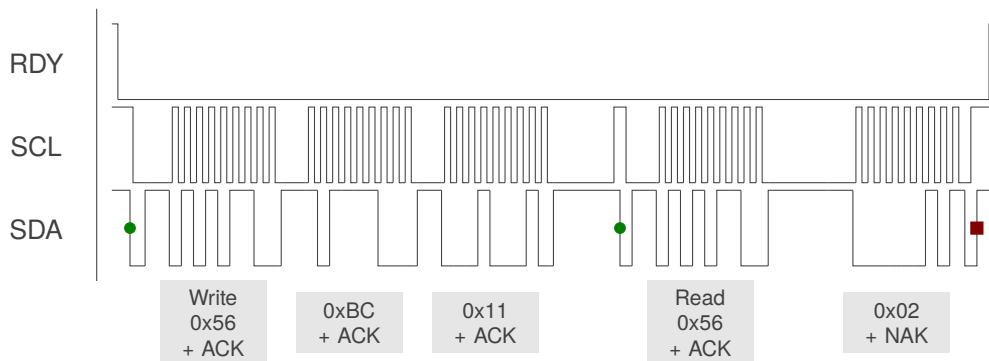
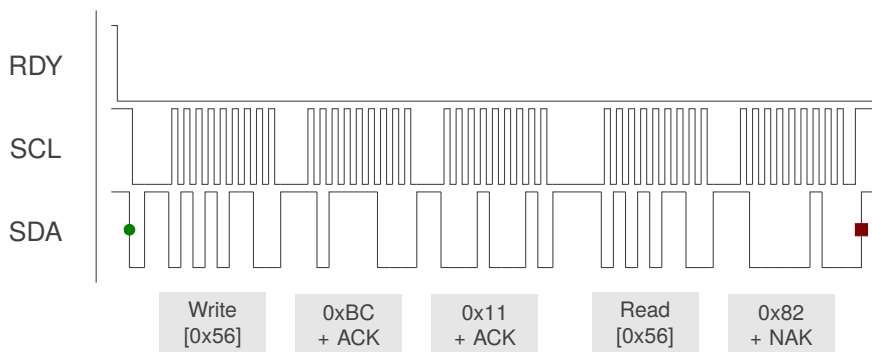

Figure 13.1: I²C Read Example - Read System Control Register 0x11BC before modifying
Figure 13.2: I²C Write Example - Write 0x82 (Ack Reset bit) to System Control Register 0x11BC
The read operation is displayed in Figure 13.1. The master device waits for the RDY line of the IQS9150 to go low, indicating the availability of new data and an available communication window. It's always advisable to wait for the RDY line to go low before initiating I²C transactions. Once the RDY interrupt triggered, the master initiates communication by sending a start condition followed by the device address along with a write command. The IQS9150 will respond with an acknowledgement after which the master device will transmit two bytes defining the register address. The master will then send a repeated start condition followed by the device address with a read command. The IQS9150 will then transmit data from the requested address and will continue to do so while the master acknowledges each byte. The read operation is ended when the master does not acknowledge the last byte received and produces a stop condition.
The write operation is displayed in Figure 13.2. Similar to the read transaction, when the RDY interrupt is triggered, the master initiates communication by sending a start condition followed by the device address along with a write command. The IQS9150 will respond with an acknowledgement after which the master device will transmit two bytes defining the register address. The slave acknowledges the register address bytes. The master may then write a series of bytes to the register address and the addresses which follow, with each byte being acknowledged by the slave. The write operation is ended when the master produces a stop condition.
- > Read the System Control Register (0x11BC) as illustrated in Figure 13.1.
- > Write the value 0x82 to Register 0x11BC as shown in Figure 13.2.
With the *Terminate Comms Window* setting cleared in the *Config Settings* register, a standard I²C STOP ends the current communication window. If multiple I²C transactions need to be done, then they should be strung together using repeated-start conditions instead of giving a STOP. This will allow the communication to occur in the same session. Allowing an I²C STOP to terminate the communication window is the recommended method, and is illustrated in Figure 13.1 and Figure 13.2.